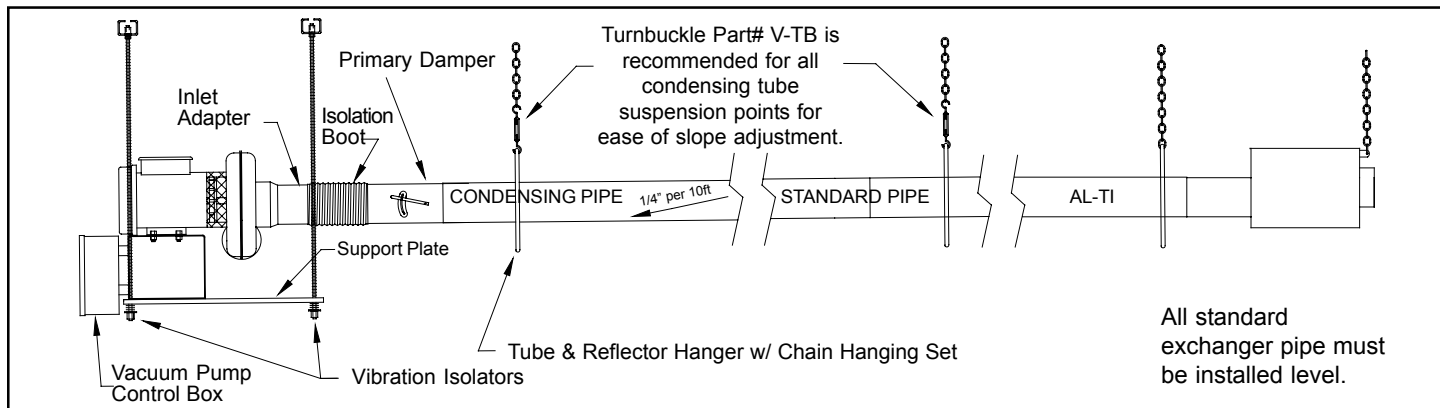

Figure 3-6
2. Install vacuum pump as shown on plan drawing. Make sure pump is properly aligned with system. Allow an 8" to 12" space for the isolation boot between the primary damper and the vacuum pump inlet adapter. See figure 3-6.
4. Install isolation boot with clamps provided. See figure 3-6.
1. Installation begins at the vacuum pump. Slope condensing pipe downward 1/4" per 10 feet as it approaches the pump (which is upward at 1/4" per 10 feet going from the pump). Standard radiant pipe will be mounted level. Refer to figure 3-6 on the following page.